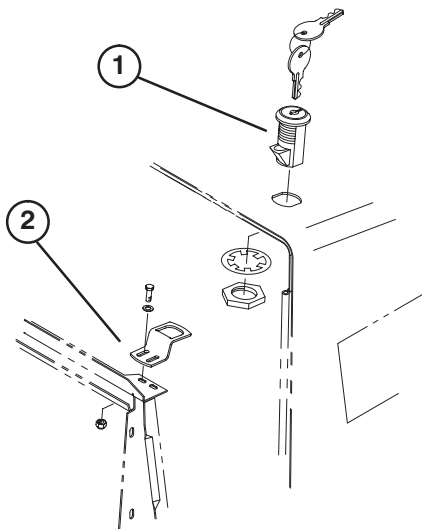

Figure 3
3. Mount locking switch to hood with lock washer and nut. Position switch with latch toward front of machine (Fig. 3).
4. Loosely mount latch bracket to radiator support with 2 capscrews (1/4 x 3/4 in.), flat washers, and locknuts (Fig. 3).